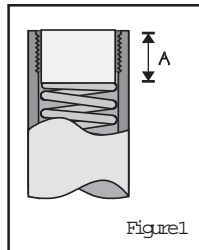

Figure1
- A. Measure from the top of the fork spring to the top of the fork tube (See figure 1).